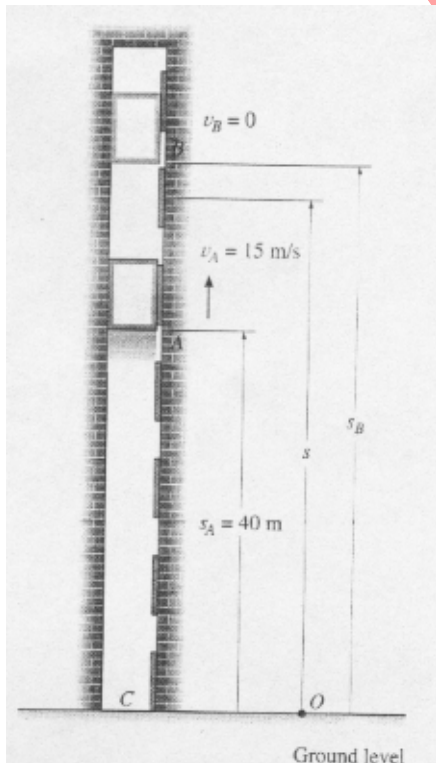

Figure 1 Elevator test
1. During a test an elevator is traveling upward at 15m/s shown Figure 1 and the hoisting cable is cut when it is 40 m from the ground. Determine the maximum height s_B reached by the elevator and its speed just before it hits the ground. During the entire time the elevator is in motion, it is subjected to a constant downward acceleration of 9.81 m/s^2 due to gravity. Neglect the effect of air resistance. (20%)